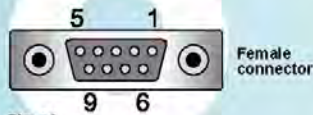

Fig. 18
■ The SunEzy inverter is fitted as standard with an RS232 interface for accessing inverter data from a PC using the SunEzy Control software supplied. This link is accessible by removing the RS232 connector cover on the underneath of the device. A DB9 connector is used (Fig. 18), with the pin connections defined in the table opposite.